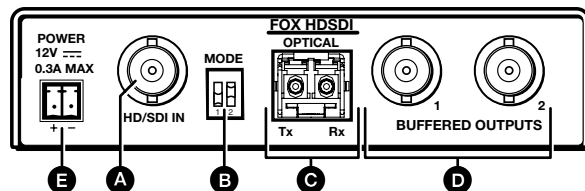
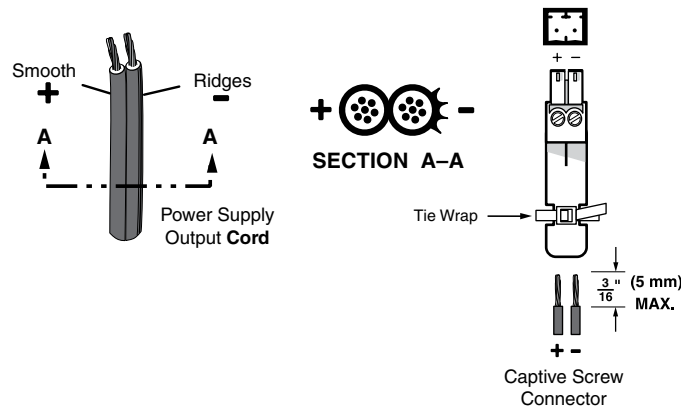

Figure 4. FOX 3G HD-SDI Transceiver Connectors
Figure 5. Power Connector Wiring
All connectors are on the rear panel (figure 4).
- A HD-SDI Input connector** (see figure 4 on the previous page) — **If the FOX 3G HD-SDI is configured as either a bidirectional transceiver or as a transmitter**, connect an HD-SDI, SDI, or 3G-SDI video input to this BNC connector.
- B Mode switches** (see figure 4) — Set these DIP switches to the positions shown in the table below to select the transceiver configuration. See Transceiver Configurations on page 2 for more information.
- C Fiber optic connectors** (see figure 4) —
- D Buffered Outputs connectors** (see figure 4 on page 6) — In any FOX 3G HD-SDI configuration, connect a digital display to these BNC connectors. See Transceiver Configurations for more details.
- E Power connector** (see figure 4) — Plug the included external 12 VDC power supply into this 2-pole captive screw connector. Figure 5 shows how to wire the power connector. Use the supplied tie-wrap to strap the power cord to the extended tail of the connector.
- Power supply voltage polarity is critical. Incorrect voltage polarity can damage the power supply and the unit. The ridges on the side of the cord (figure 5 on the previous page) identify the power cord negative lead.